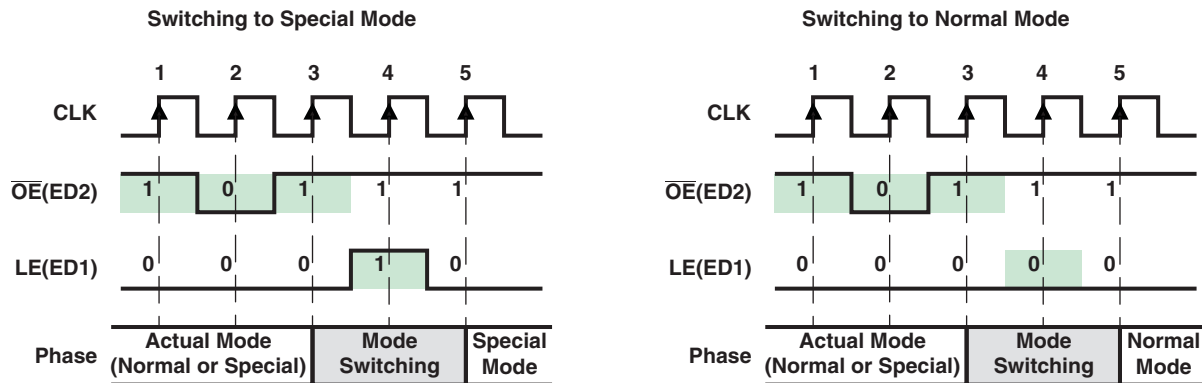

Figure 12. Mode Switching
In order to switch between its two modes, TLC5926/TLC5927 monitors the signal $\overline{OE}(ED2)$. When a one-clock-wide pulse of $\overline{OE}(ED2)$ appears, TLC5926/TLC5927 enters the two-clock-period transition phase, the Mode Switching phase. After power on, the default operation mode is the Normal Mode (see Figure 12).
As shown in Figure 12, once a one-clock-wide short pulse (101) of $\overline{OE}(ED2)$ appears, TLC5926/TLC5927 enters the Mode Switching phase. At the fourth rising edge of CLK, if LE(ED1) is sampled as voltage high, TLC5926/TLC5927 switches to Special mode; otherwise, it switches to Normal mode. The signal LE(ED1) between the third and the fifth rising edges of CLK cannot latch any data. Its level is used only to determine into which mode to switch. However, the short pulse of $\overline{OE}(ED2)$ can still enable the output ports. During mode switching, the serial data can still be transferred through SDI and shifted out from SDO.